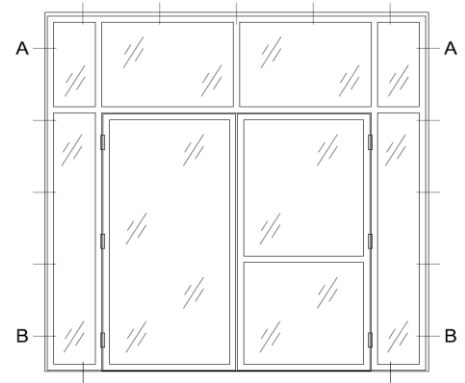

FIGURE 5
- **Fix** the construction's upper corners **A** to the **vertical wall** according to the existing fixing points (see Figure 5) Do the same with the doors and windows.
- **Fix** the construction's lower corners **B** to the **vertical wall** according to the existing fixing points (see Figure 5).